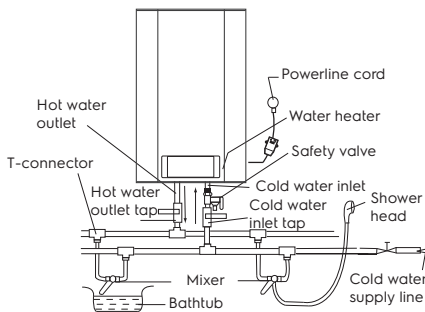

Figure 7
4. If the water supply system should be mounted for several water draw-off points, use the connection method (see Figure 7).